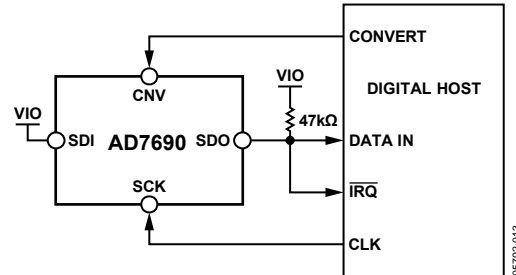
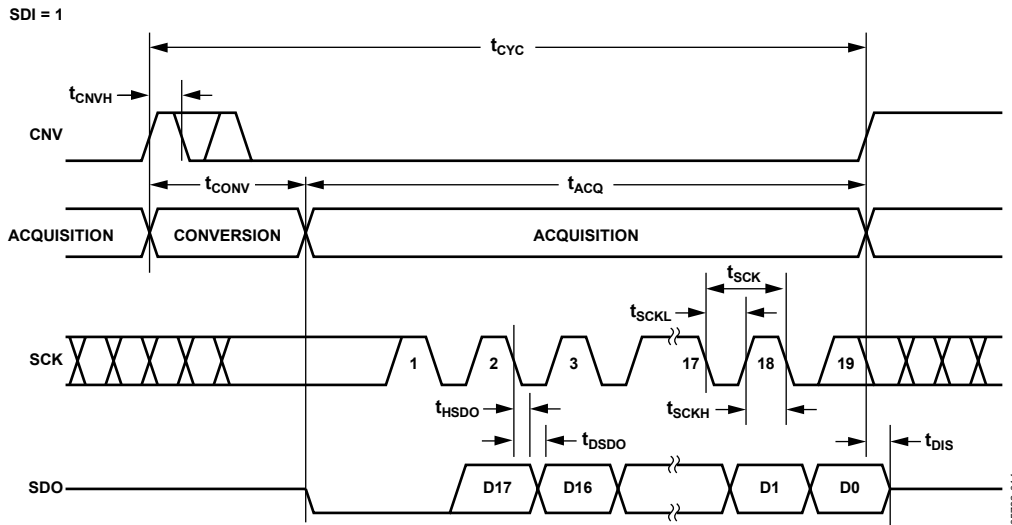
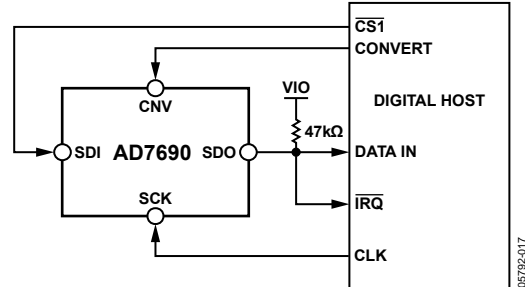
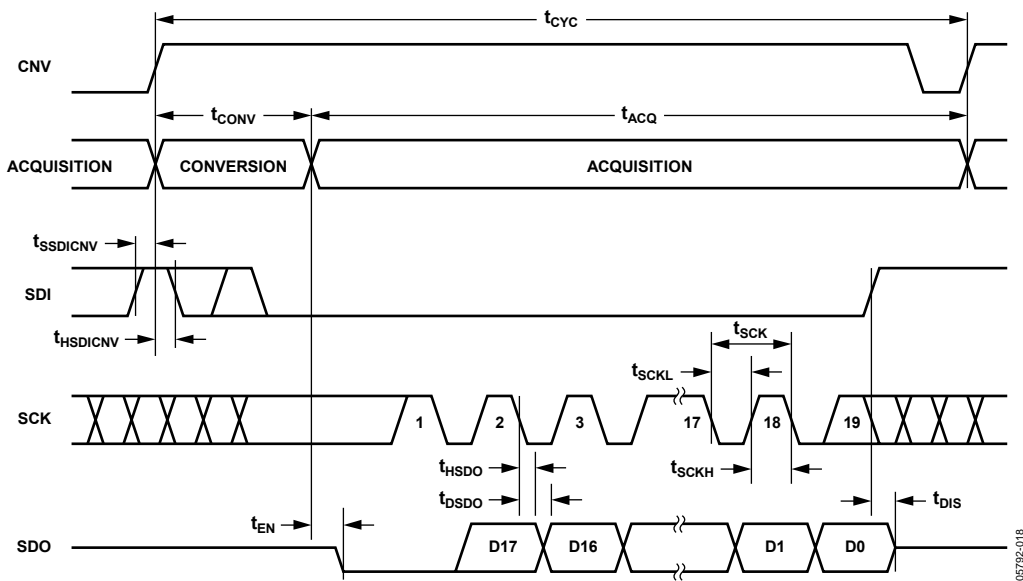

Figure 35. 3-Wire \overline{CS} Mode with Busy Indicator Connection Diagram (SDI High)
Figure 36. 3-Wire \overline{CS} Mode with Busy Indicator Serial Interface Timing (SDI High)
Figure 39. 4-Wire $\overline{\text{CS}}$ Mode with Busy Indicator Connection Diagram
Figure 40. 4-Wire $\overline{\text{CS}}$ Mode with Busy Indicator Serial Interface Timing
- In the \overline{CS} mode if CNV or SDI is low when the ADC conversion ends (see Figure 36 and Figure 40).
The connection diagram is shown in Figure 35, and the corresponding timing is given in Figure 36.
The connection diagram is shown in Figure 39, and the corresponding timing is given in Figure 40.